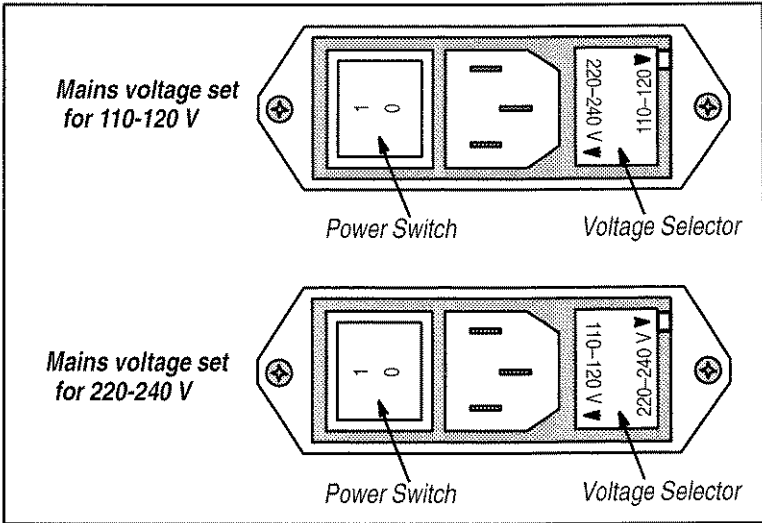

Figure 1-1: Rear-panel Input Connector
3. Referring to Figure 1-1, verify that the arrow pointing to the rectangle now indicates the correct voltage setting.